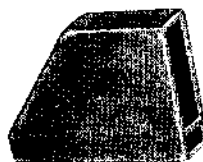
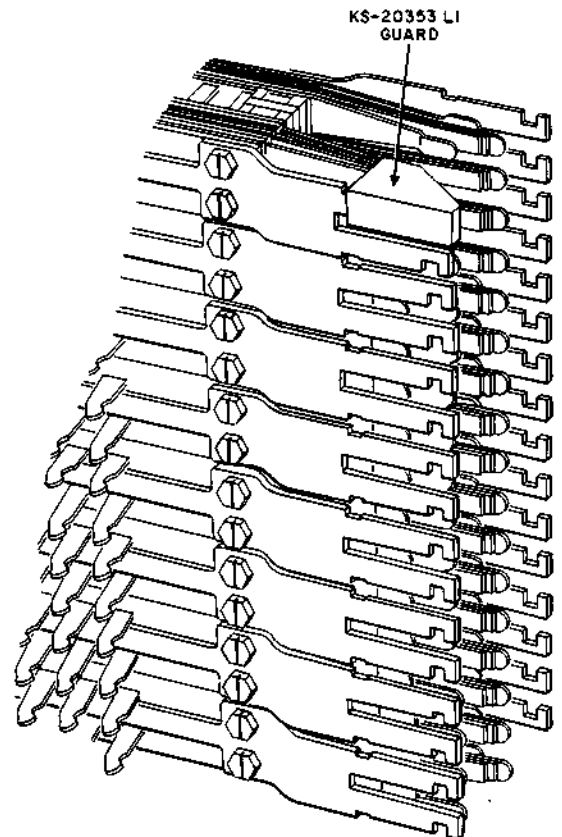

Fig. 30—KS-20353 L1 Guard
Fig. 31—KS-20353 L1 Guard on 444-Type Jack
16.09 On main distributing frames equipped with 444-type jacks in addition to the KS-6660 or KS-16847 L1 indicators and No. 4 and No. 5 punching insulators, special circuits should be further protected by using a KS-20353 L1 guard which replaces the 12A and 12B guard. The KS-20353 L1 guard (Fig. 30) consists of a molded red thermoplastic material having a cavity on one side and a rectangular hole through the other. Fig. 31 shows the KS-20353 L1 guard mounted on a 444-type jack.